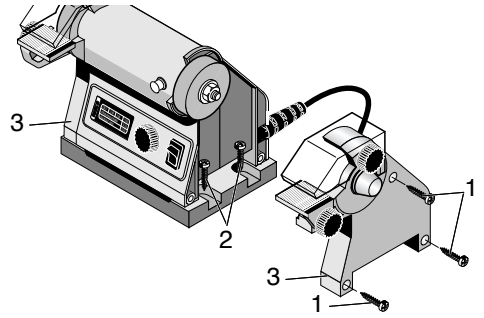

Fig. 2
1. Unscrew the fastening screws 1 (Fig. 2) for both lateral covers (3).
2. Fasten both sides of the machine base with 4 fastening screws (2) to a sturdy base.